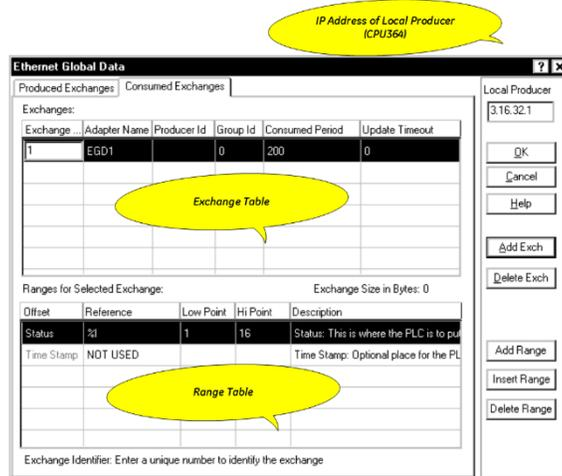

Figure 56: Configure Consumed Exchange Number
- In the Exchange field, enter 1 for the Exchange Number (Figure 56).